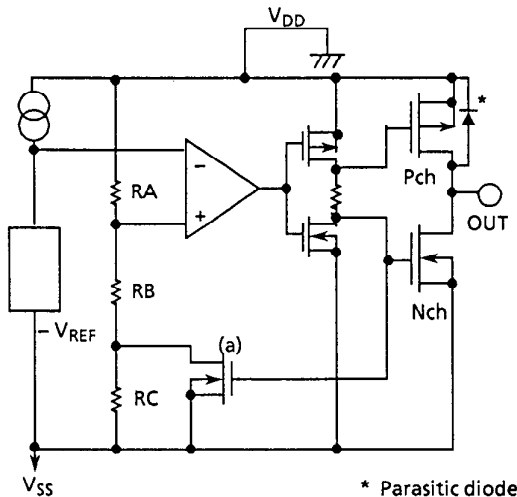
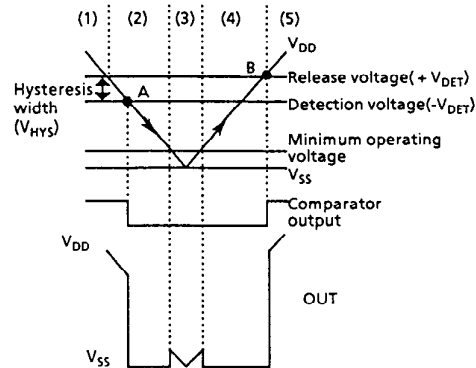

Figure 13
Figure 14
Hysteresis width is the voltage difference between a device's detection voltage and its release voltage (see Figure 14. $V_{HYS} = B - A$). By giving a device hysteresis, erroneous toggling of the output due to noise at the input is avoided.
- (1) When power supply voltage V_{DD} is greater than the release voltage $+V_{DET}$, the Nch transistor is OFF and the Pch transistor ON, causing V_{DD} (high) to appear at the output. With the Nch transistor of Figure 13 (a) off, the comparator input voltage is $(RB + RC)/(RA + RB + RC) \times V_{DD}$.
- (2) When power supply voltage V_{DD} goes below $+V_{DET}$, the output continues to maintain the power supply voltage level, as long as V_{DD} remains above the detection voltage $-V_{DET}$. When V_{DD} does fall below $-V_{DET}$ (A in Figure 14), the Nch transistor goes ON, the Pch transistor goes OFF, and V_{SS} appears at the output. With the Nch transistor of Figure 13 (a) ON, the comparator input voltage is $RB/(RA + RB) \times V_{DD}$.
- (3) When V_{DD} falls below the minimum operating voltage, the output becomes undefined. However, output will revert to V_{DD} if a pull-up has been employed.
- (4) V_{SS} will again be output when V_{DD} rises above the minimum operating voltage. V_{SS} will continue to be output even when V_{DD} surpasses $-V_{DET}$, as long as it does not exceed the release voltage $+V_{DET}$.
- (5) When V_{DD} rises above $+V_{DET}$ (B in Figure 14), the Nch transistor goes OFF, the Pch transistor goes ON, and V_{DD} appears at the output.